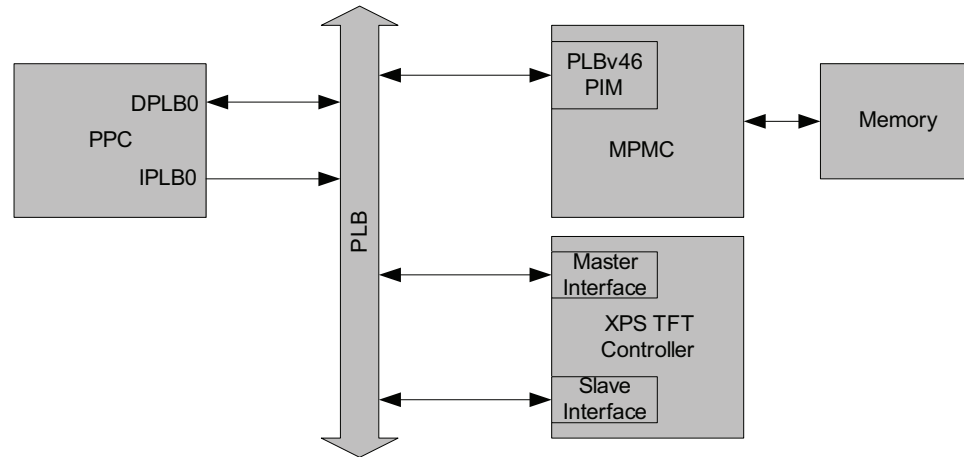

Figure 13: XPS TFT PowerPC Processor System with PLB Slave Interface
- Standard PowerPC® processor system with PLB slave interface (Figure 13)